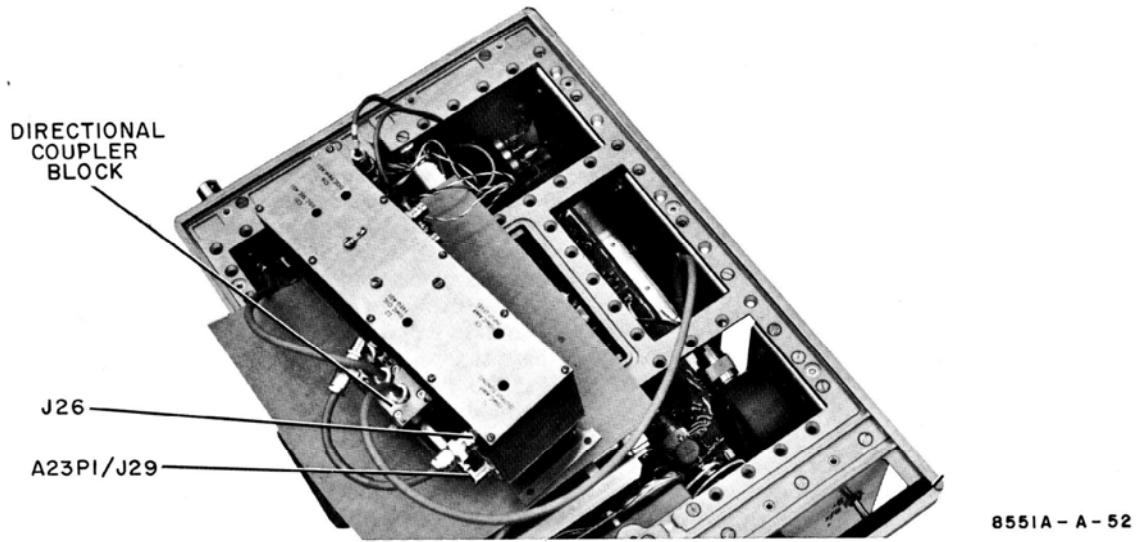

Figure 5-14. Lock Assembly A15 Ready for Adjustment
- Position instrument on its left side and phase lock assembly on a piece of cardboard (or other insulating material) on the side frame of instrument (see Figure 5-14). Reconnect Cables W28 and W31 to Connectors J27 and J30.
- On 8551B, set LINE to ON, FREQUENCY(GC) to .01-2, SPECTRUM WIDTH to 1 MC/CM, and STABILIZATION to UNSTABILIZED. Set TUNE to 2 Gc on LOCAL OSC FREQ scale, then push it in (to fine tuning position). Set STABILIZATION to STABILIZED.
aq. If necessary, reposition the coupling loop of A23DC1 Directional Coupler (see Figure 5-14) for proper signal amplitude (increase coupling to increase signal). Coupler block is pulled in (to increase coupling) by four corner screws and pushed out by four corner setscrews. Since the two sets of screws work against each other, loosen one set before tightening the other. After adjustment, use a gauge (such as a drill bit) to be sure spacing between the block and assembly body is the same all around.